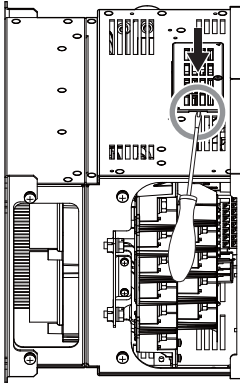

Figure 13 Remove the Connector Cover
3. Insert the blade of a straight-edge screwdriver into the opening shown in *Figure 13*. Pull the connector cover in the direction indicated by the arrow and remove it from the unit.